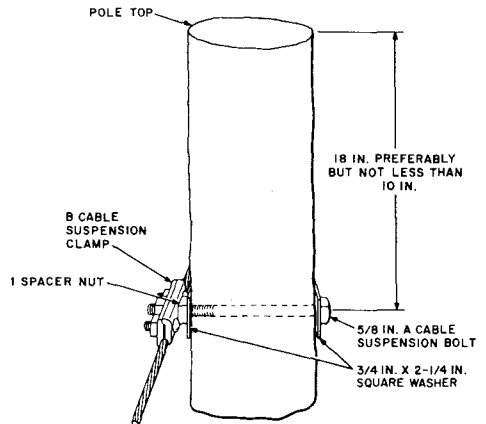

Fig. 13—Pole Attachment for 6M or 6.6M Suspension Strand With No Reinforcing Strap
9.01 On poles that will carry telephone attachments only, locate the cable suspension bolt as shown in Fig. 13 through 15. In all cases locate the suspension bolts so that the clearance requirements, as outlined in the 620 Division of the Bell System Practices, will be met for all attachments.
9.02 Attach 6M or 6.6M strand as illustrated in Fig. 13 where a reinforcing strap is not required.